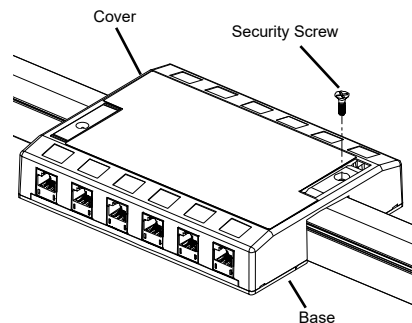

Figure 7
7. Snap cover onto base unit. Secure cover with supplied security screw. See Figure 7.